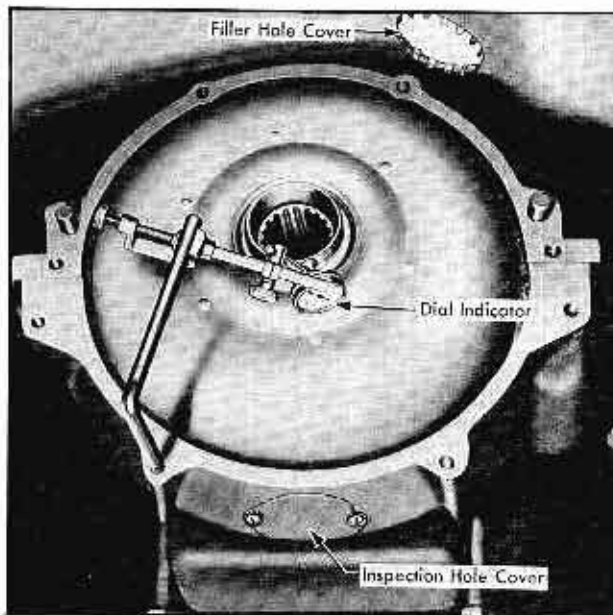

Fig. 14-81 Flywheel Cover Hub Runout
b. Attach Dial Indicator, Tool No. KMO-30 to an arbor fastened to the crankcase and locate bottom on cover hub. Fig. 14-81.
**(34) Inspection of Flywheel**